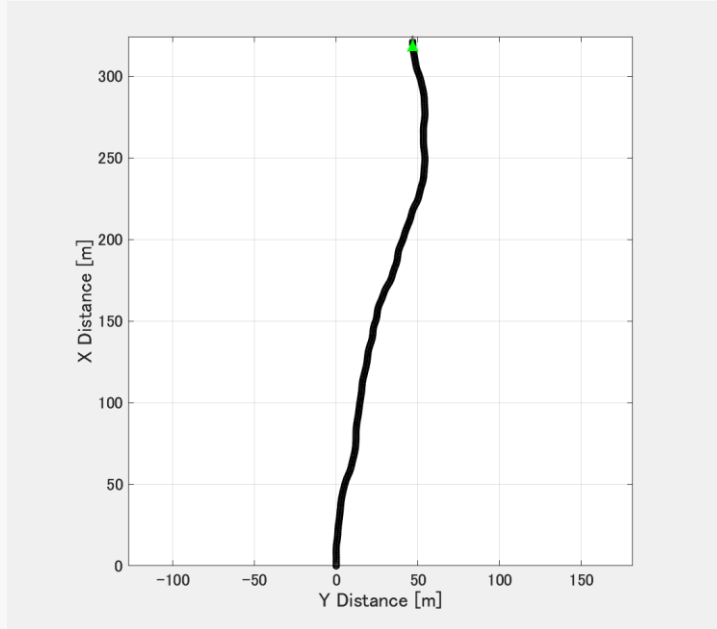

Fig. 3: Trajectory of driving data
- The parameters of the ARX model were estimated and transformed into a discrete-time state-space model based on the driving data with trajectories as shown in Fig. 3, resulting in the following discrete-time state-space model.